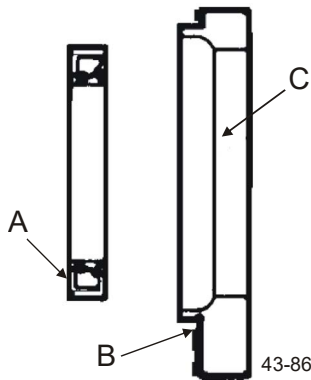

Figure 41 - Press out grease seal
7. Scrape the silicone sealant (Figure 41, item B); then press out and discard the grease seal (item A) from the front bearing retainers (item C).